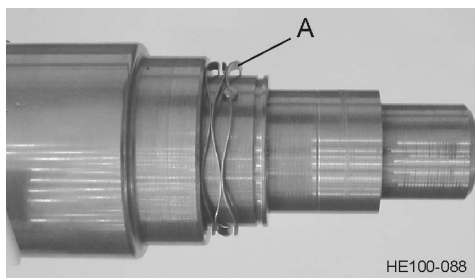
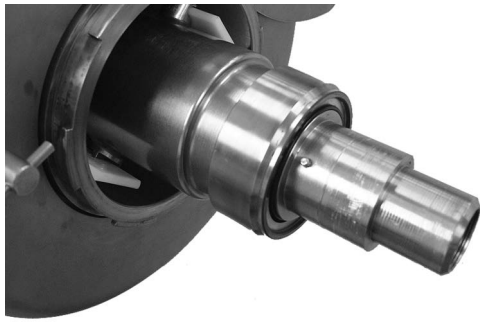
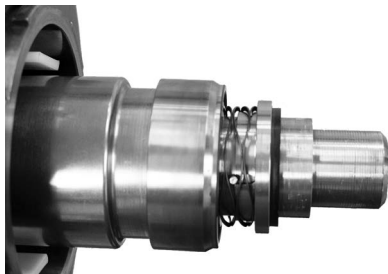

Figure 75 - Install Wavy Spring
Figure 76 - Install Seal Body
Figure 78 - Double Mechanical Seal Installed
1. The primary seal body is held in place on the mutator shaft by two seal drive pins. Each one should be 5/32" (+/- 0.015") above the stub shaft surface. The secondary seal body is held in place by one seal drive pin. It should be 3/32" (+/-0.015") above the stub shaft surface. It is extremely important that these dimensions be maintained. If the pins are too high, the seal will jam; if they are too low, the body will rotate. See Figure 75 and Figure 78
2. Place the wavy washer spring (See Figure 75, Item A) on the shaft. Place the seal body (Figure 76) or one-piece seal on the shaft, aligning the slots with the seal drive pins.
4. Assemble the Secondary Seal Wavy Washer on the shaft, if required (See Figure 78).